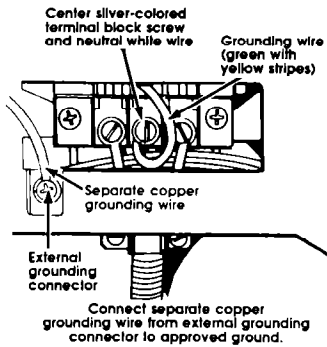

Figure 5
5. Connect the neutral wire of the flexible armored or non-metallic sheathed, copper power-supply cable to the center, silver-colored terminal screw of the terminal block. Connect the other wires to the outer terminals. Tighten screws. See Figure 5. For plain-end wires, see "Direct wiring connection," Panel F.